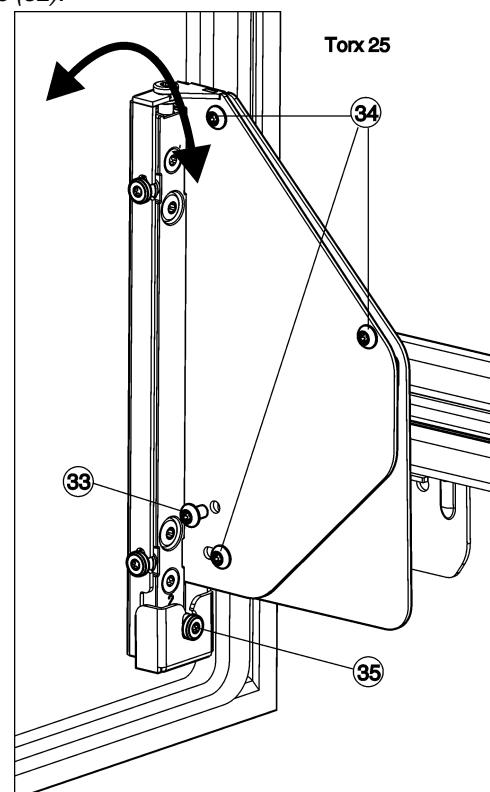

Fig. 27
- Fully unscrew the screws Fig. 27 (33).
- Dispose of the screws Fig. 27 (33) as they will no longer be needed.
- Only loosen the screws Fig. 27 (34) with 1 to 2 turns.
- Turn the adjusting screw Fig. 27 (35). In a clockwise direction: the top of the door tilts away from the appliance body. In an anticlockwise direction: the top of the door tilts towards the appliance and the bottom tilts away from the appliance body.
- After adjusting the inclination, retighten all screws Fig. 27 (34).